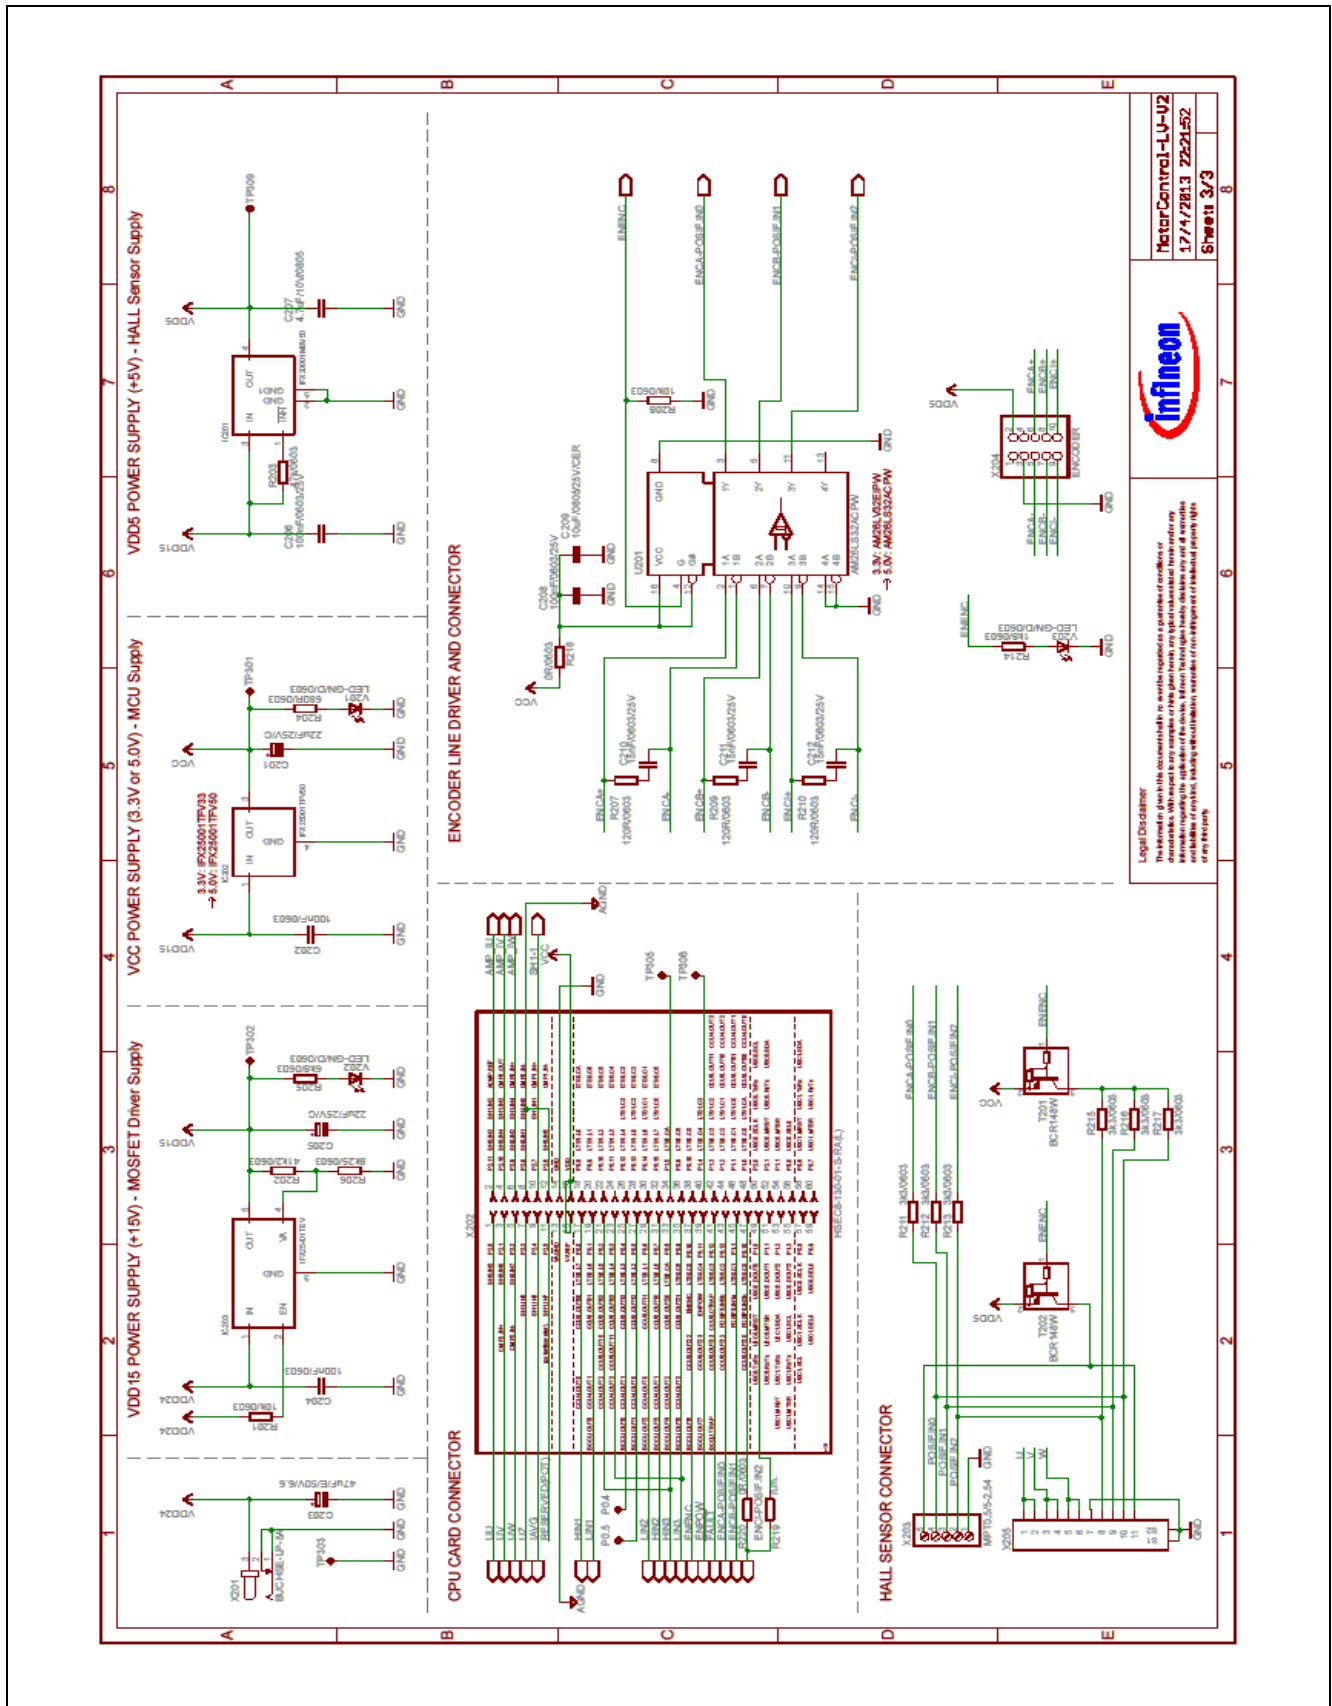

Figure 14 Schematic of SAMTEC Connector, Power Supply, Encoder Line Driver and Connector, Hall Sensor Connector
- Figure 14: SAMTEC Connector, Power Supply, Encoder Line Driver and Connector, Hall Sensor Connector